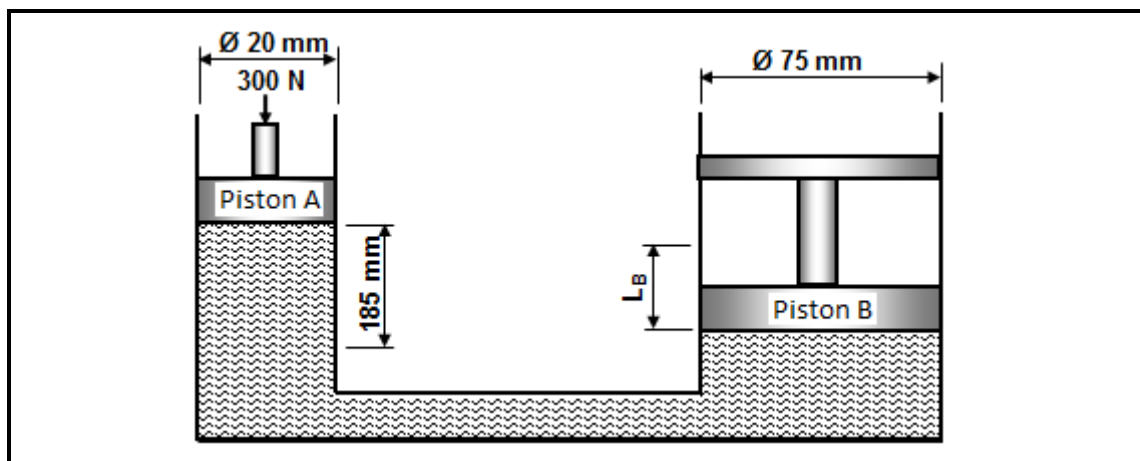

FIGURE 9.3
- 9.3 A hydraulic system is used to lift a machine. The specifications of the system are presented diagrammatically in FIGURE 9.3 below.